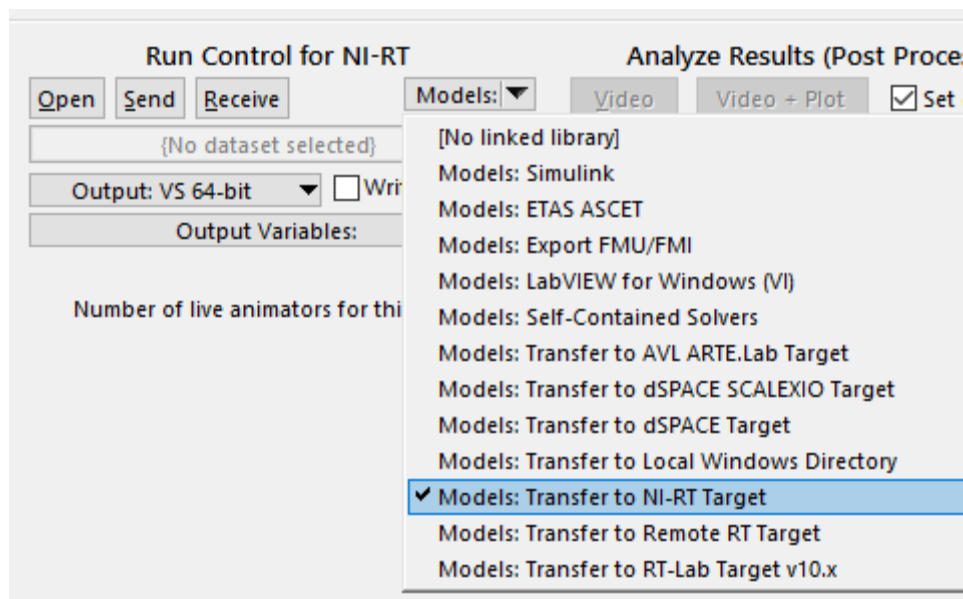

Figure 22. Set Model: Transfer to NI-RT Target.
1. Go back to CarSim, click the dropdown menu of **Models** and select **Models: Transfer to NI-RT Target** (Figure 22).